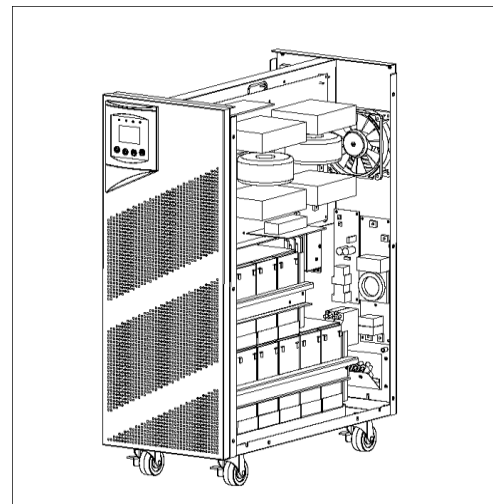

Fig. 3.3
STEP 3: Done, as shown in Figure 3.3.